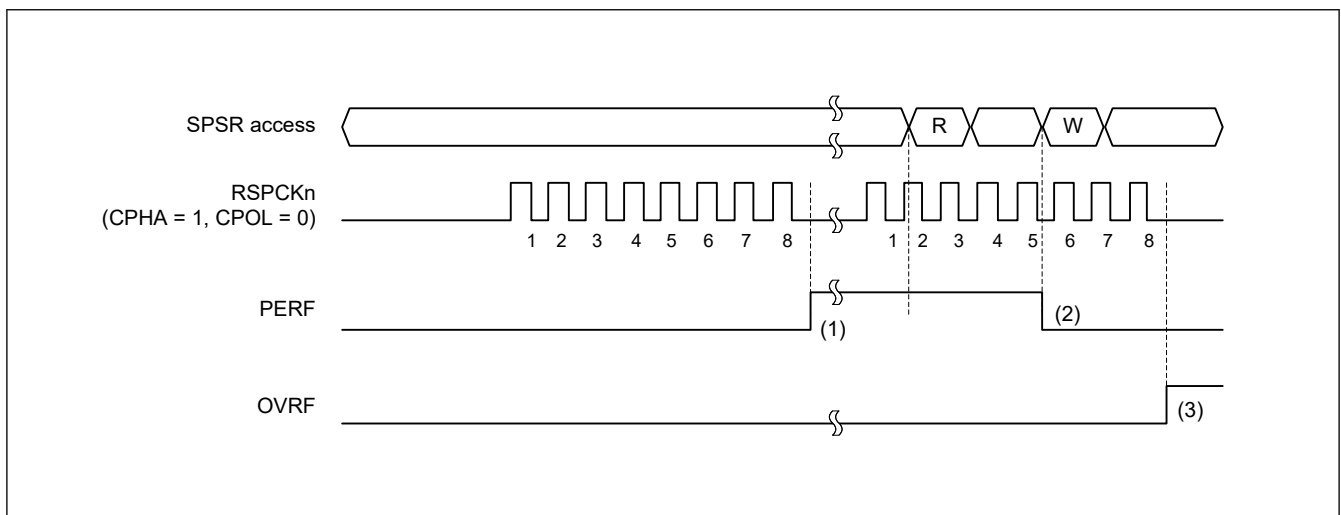

Figure 30.42 Operation example of the OVRF and PERF flags
Figure 30.42 shows an example of operation of the OVRF and PERF flags. The SPSR access shown in Figure 30.42 indicates the condition of access to the register, where W denotes a write cycle, and R a read cycle. In this example, full-duplex serial communication is performed while the SPCR2.SPPE bit is 1. The SPI performs an 8-bit serial transfer when SPCMDm.CPHA bit is 1 and the SPCMDm.CPOL bit is 0. The numbers given for RSPCKn in the waveform represent the number of RSPCK cycles, such as the number of transferred bits.
The operation of the flags at timings (1) to (3) in Figure 30.42 is as follows: